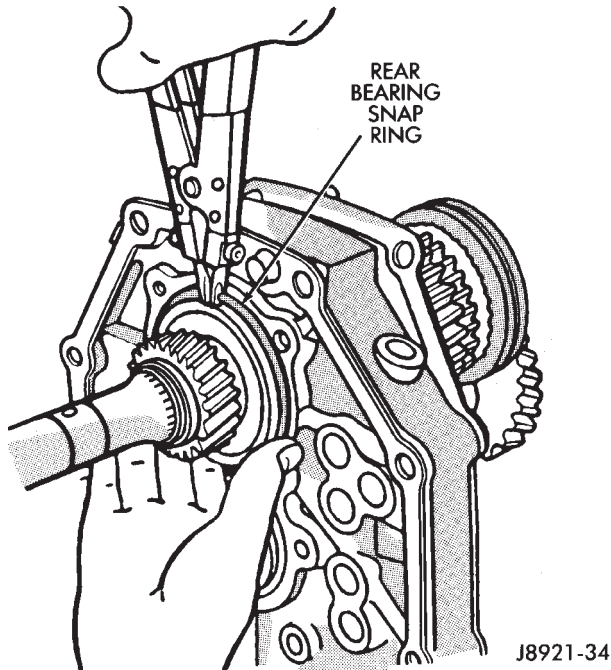

Fig. 34 Removing Rear Bearing Snap Ring
(8) Remove rear bearing snap ring (Fig. 34).